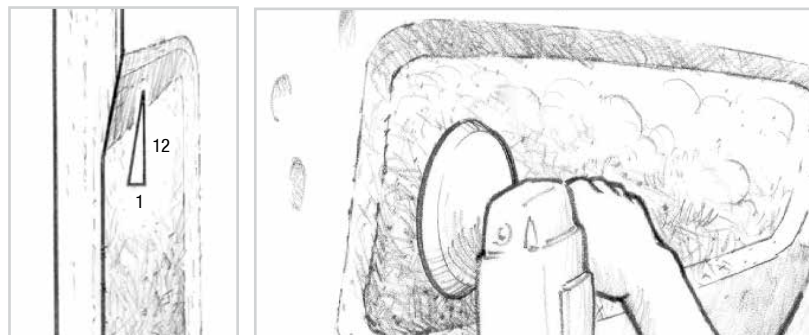

Figure 10-6
3. Bevel the edge of the repair area to a minimum 12-to-1 angle to provide a greater bonding area and reduce stress concentrations (Figure 10-6).